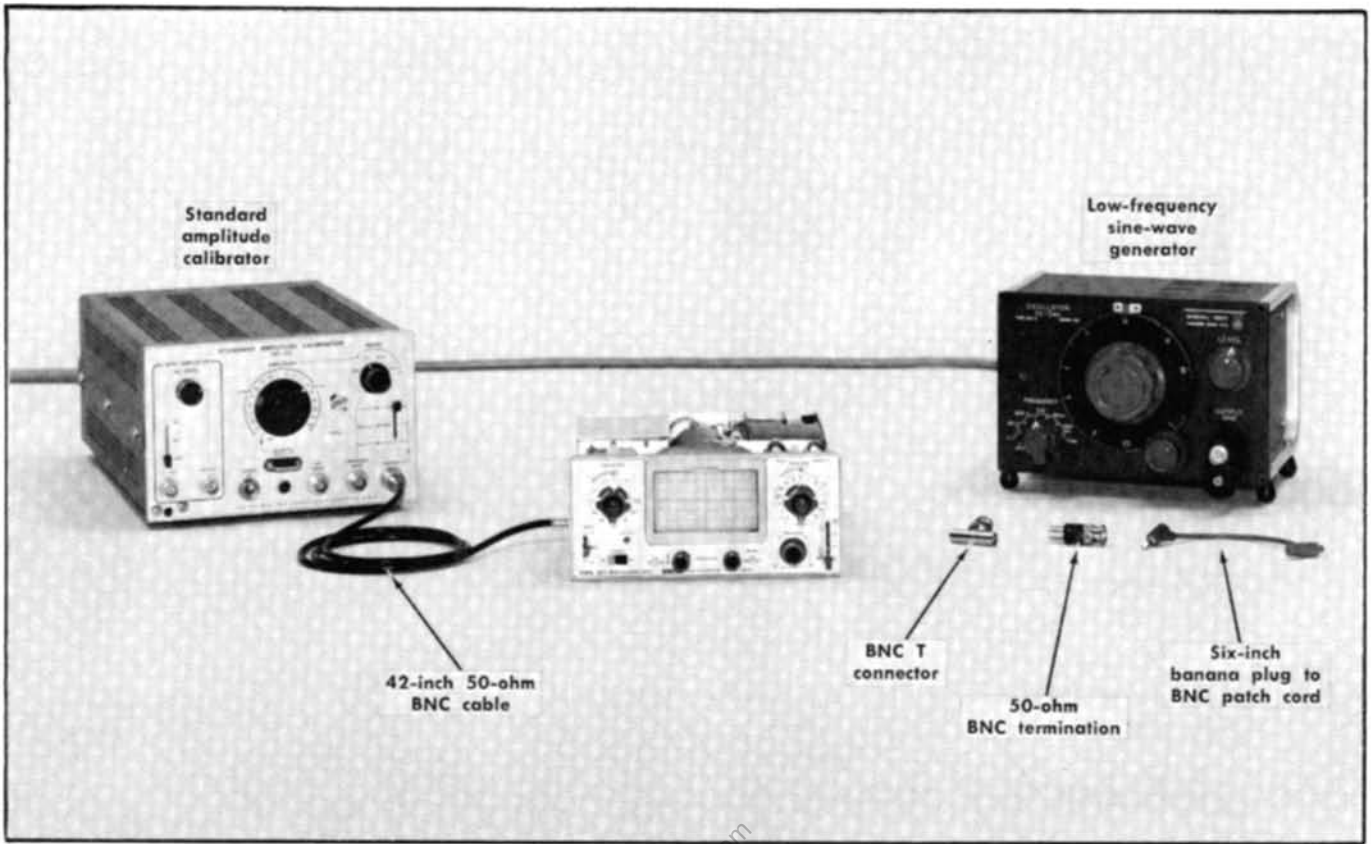

Fig. 6-18. Initial test equipment setup for steps 39 through 45.
**39. Adjust External Horizontal Variable Balance** ①
- a. Test equipment setup is shown in Fig. 6-18.